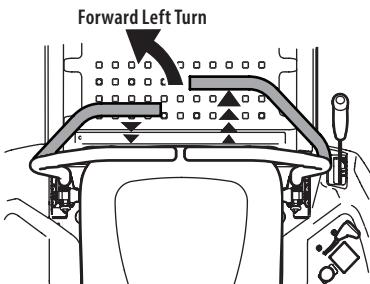

Figure 23
- To turn to the left, move the left drive control lever rearward of the right drive control lever (Figure 23).